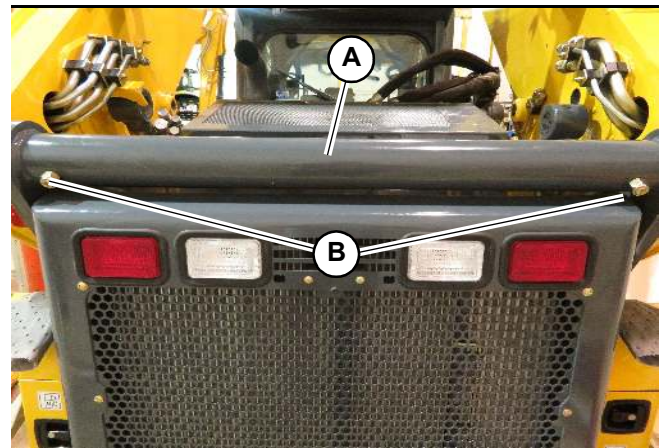

Fig. 31 – Rear Link Capscrews and Locknuts
4. Attach an appropriate lifting device to the rear link (A, Fig. 31) and remove the two capscrews and locknuts (B).